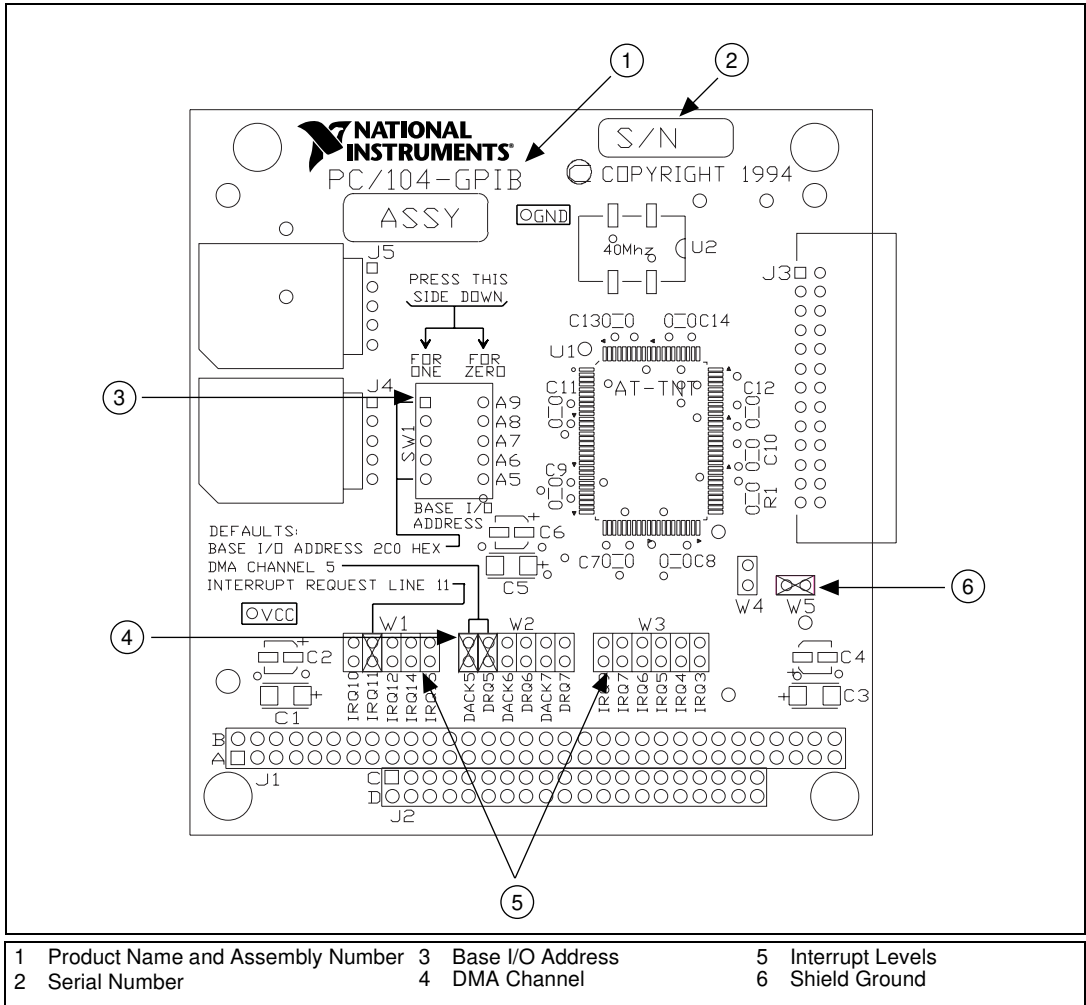

Figure 2-7. PC/104-GPIB Parts Locator Diagram
Figure 2-7 shows the location of the configuration jumpers and switches on the PC/104-GPIB. The following sections explain how to reconfigure your PC/104-GPIB.
1. Locate the base I/O address switch at SW1 on your PC/104-GPIB. Refer to the parts locator diagram, Figure 2-7.
1. Find W1 and W3, the jumpers that set the interrupt request line. The jumpers are located on the lower edge of your PC/104-GPIB. Refer to the parts locator diagram, Figure 2-7.
1. Locate the jumpers that select the DMA channel. Refer to the parts locator diagram, Figure 2-7.
- Refer to Figure 2-7 to locate the shield ground jumper W5 on the PC/104-GPIB.